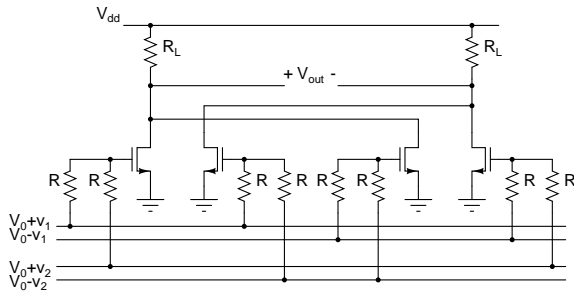

Figure 1: Problem 1
1. Calculate V_{out} in Fig. 1. What is the function of the circuit? (Assume that all transistors are in the saturation region)